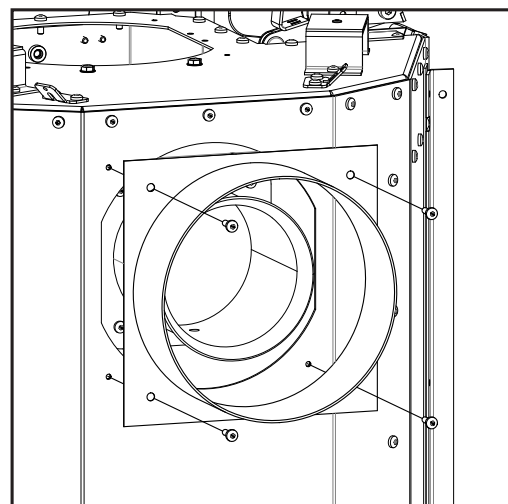

Figure 68: Vent Adapter Attachment
11. Attach the vent adapter over top of the exhaust spigot (see Figure 68).